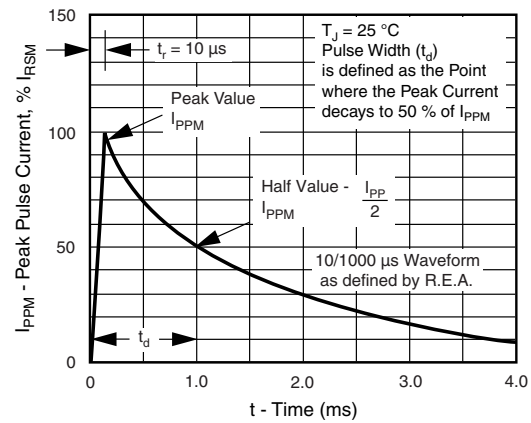
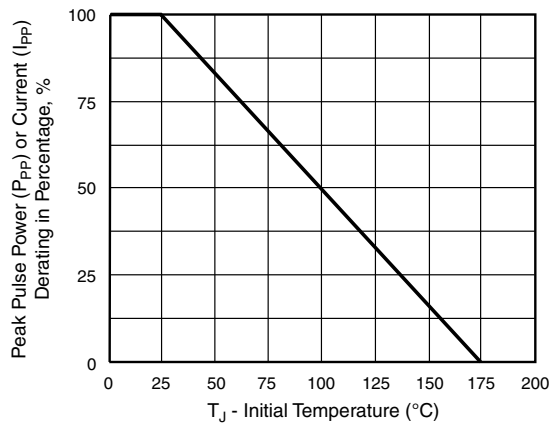

Fig. 3 - Pulse Waveform
Fig. 2 - Pulse Power or Current vs. Initial Junction Temperature
(1) Non-repetitive current pulse, per fig. 3 and derated above  $T_A = 25$  °C per fig. 2
- (1) Pulse test: tp ≤ 50 ms
(2) Surge current waveform per fig. 3 and derate per fig. 2
(3) All terms and symbols are consistent with ANSI/IEEE CA62.35